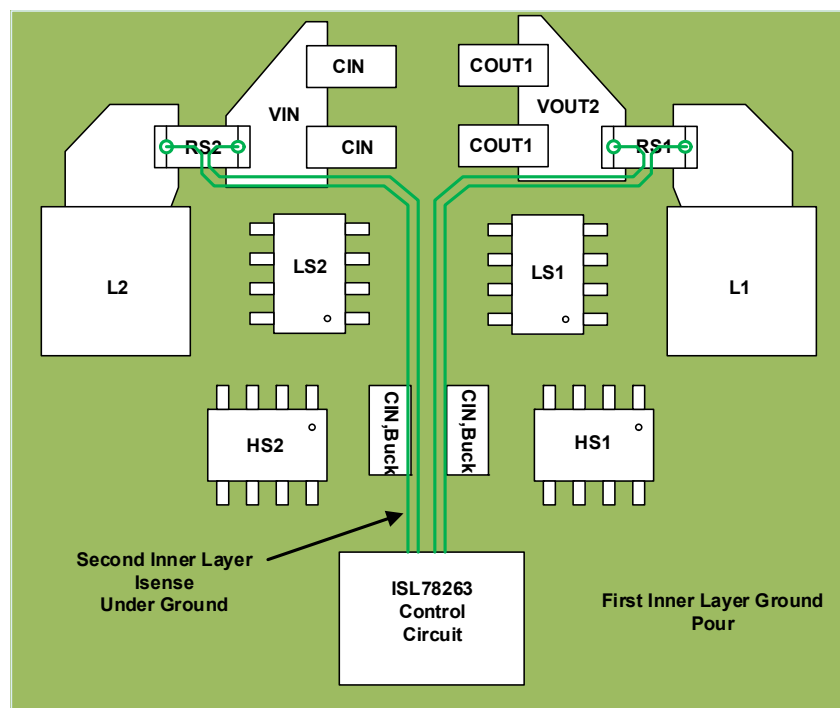

Figure 30. PCB Layout Illustrating Current Sense Routing
3. The first inner layer below the top copper layer with power components should be a ground layer that is as complete as possible, as indicated in Figure 30 using the light green fill. This provides a tightly coupled ground return path for the power circuitry. This layer is also used in conjunction with many vias to create a low-impedance connection from the common power GND region to the ISL78264 controller, and the thermal pad is connected to this plane using multiple vias.
5. Each converter has ISNS connections that should be routed as shown in Figure 30. The ISNS traces are routed on the second inner layer, which is shielded from power switching currents by the ground area on the inner layer 1. Begin the ISNS traces as a kelvin connection through a via in the center of the sense resistor in each converter.